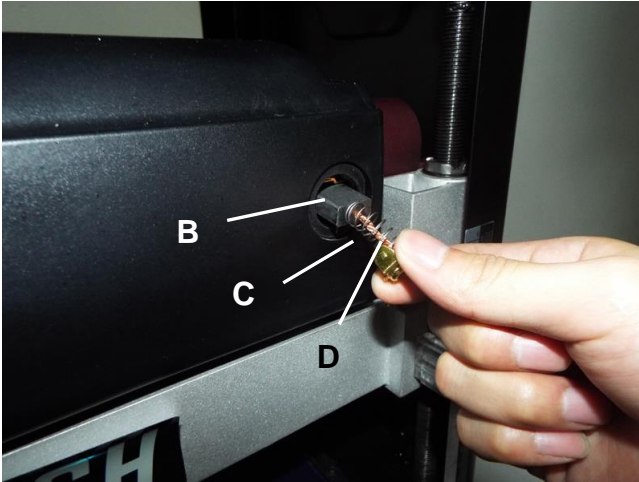

FIG 13
2. Once the brush has been removed, inspect the carbon (B), the spring (C), and the wire (D). SEE FIG 13.